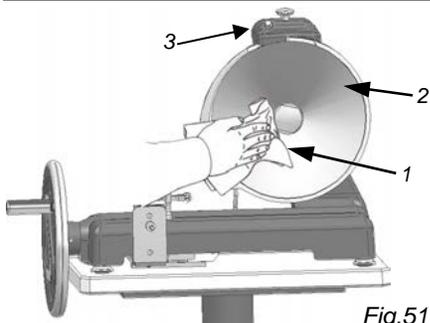

Fig.51
- Use a damp cloth (Fig.51 det.1), press it onto the surface of the blade (Fig.51 det.1) from on the ring side and the opposite side and move it slowly from the centre of the blade towards the outside;
- Remove the sharpener completely out of its housing (Fig.51 det.3);